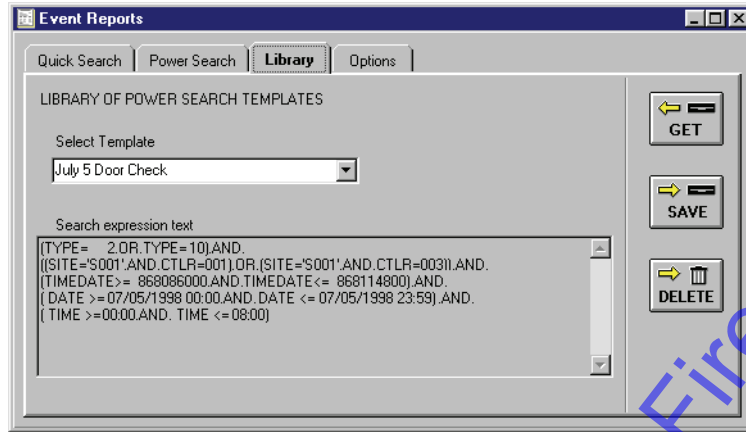

Figure 7-37: Power Search Library Tab
As operators develop search expressions to generate specific event reports, these expressions can be saved into a library (see Figure 7-37). Once in the library, they can be retrieved and run at specific times, and they can be deleted.
1. To save a search expression, click on the **Library** tab (see Figure 7-37). Verify that the expression to be saved is entered in the “Search Expression” field.
1. To retrieve a search expression, click on the **Library** tab (see Figure 7-37 on page 30 of this section).
5. The search expression is then displayed in the "Search expression text" field. The operator can review the expression to verify it is the correct one (see Figure 7-37 on page 30 of this section).